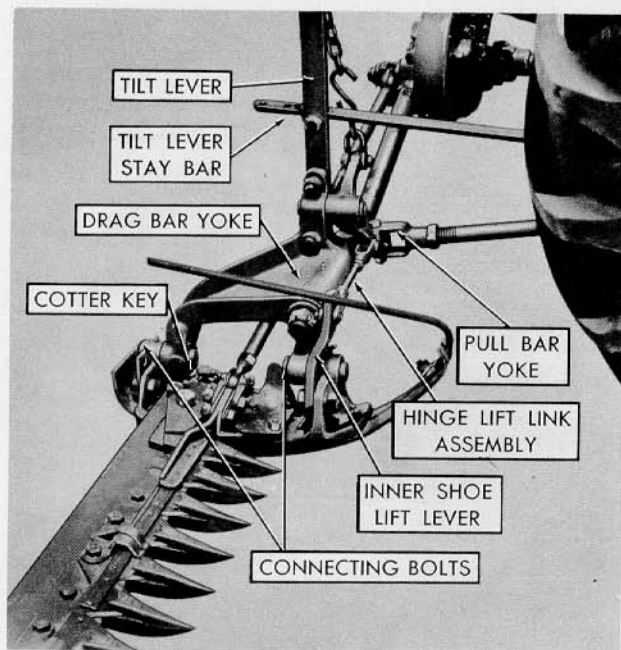
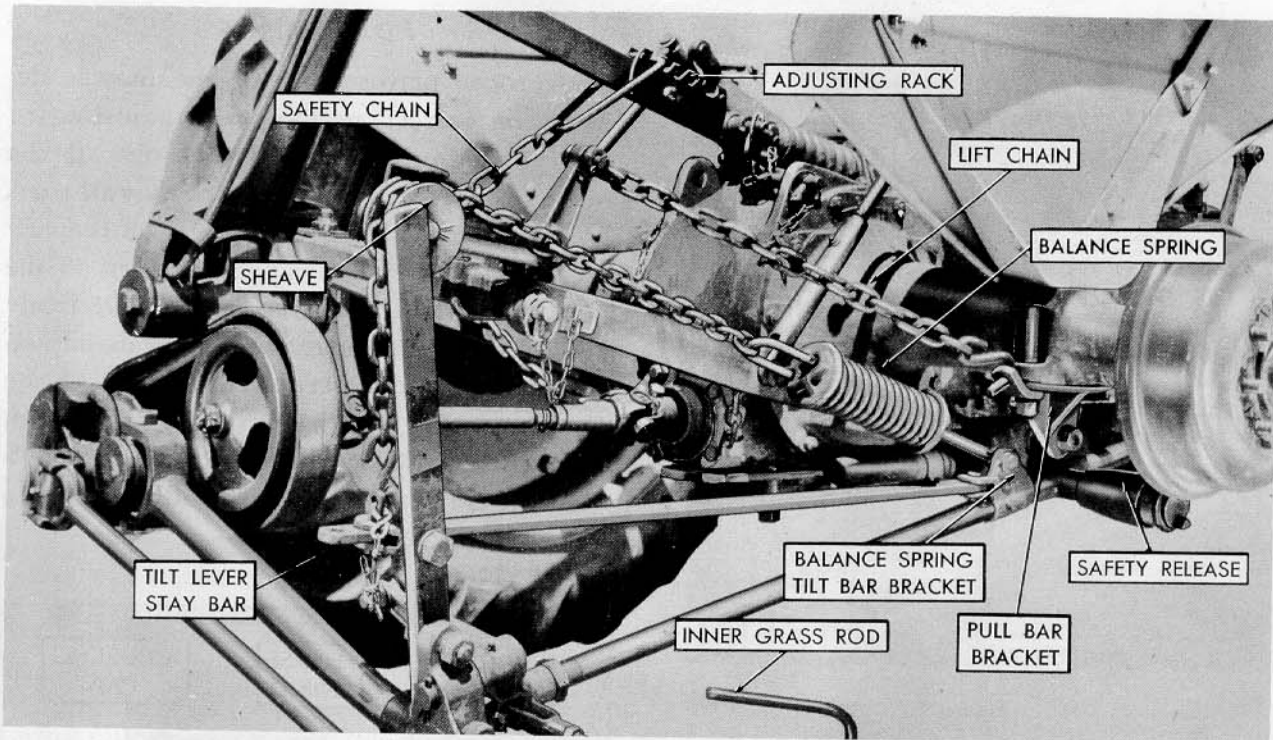

Figure 6
Figure 7
**Step 8:** Attach drawbar to the tractor with the chain in the forward position; left lower tractor link to the left side of drawbar and right lower tractor link to the right side of the drawbar. *The right hand linch pin must be inserted from the bottom.* (See Figure 7)
**Step 10:** Slip top tractor link through the drawbar chain loop, then attach top link to belt housing support. (See Figure 7)
**Step 17:** Attach drag bar yoke to inner shoe assembly and cutter bar. Be sure that the connecting bolts in the yoke are inserted toward the front. Lock into position with cotter keys. (See Figure 6)
**Step 19:** Attach tilt lever to left side of yoke assembly clevis. (See Figure 6)
**Step 20:** Connect pull bar to the pull bar bracket on right rear axle. Be sure that the safety release assembly faces outward. (See Figure 7). Attach yoke end of the pull bar to the drag bar hinge assembly. (See Figure 6)
**Step 21:** Attach tilt lever stay bar to the balance spring tilt bar bracket. Connect the other end to the tilt lever clevis, using the center hole. **NOTE:** The tilt lever clevis should angle to the rear and outward when connected. (See Figure 7)
**Step 22:** Connect hinge lift link assembly to inner shoe to hinge lift lever assembly. **NOTE:** Link should be connected to the lower hole on inner shoe bar for 6-foot cutter bars and on the upper hole for 7-foot cutter bars. (See Figure 6)
**Step 23:** Attach lift chain of drag bar to eye-bracket of the pull bar bracket. (See Figure 7)
**Step 24:** Hook eye of the balance spring rod to the pull bar bracket (near safety release). (See Figure 7)
**Step 25:** Unhook safety chain from top tractor link and lower drawbar. Place balance chain over sheave in position (remove all twists from chain) and attach the end link to the chain hook on the tilt lever. (See Figure 7)
**Step 30:** Attach pitman arm ball to knifehead (See Figure 6). To tighten, remove shims between socket and knifehead. To loosen, add
The balance spring adjusts the ground pressure of the inner and outer shoes. See Figure 7